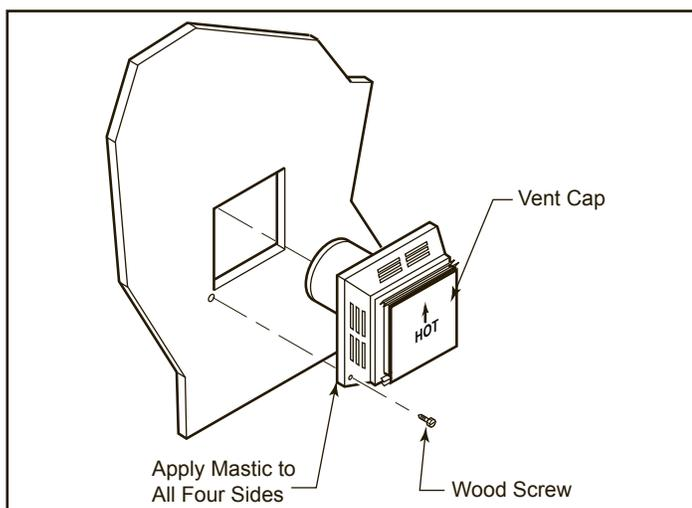

Figure 16 - Install Horizontal Vent Cap
4. Apply a bead of non-hardening mastic around the outside edge of vent cap. Position the vent cap in the center of the $7\frac{1}{2}$ " (190 mm) or $9\frac{1}{2}$ " (241 mm) hole on the exterior wall with the word "UP" on the vent cap facing up. Insure proper clearance of 1" to combustibles is maintained. Attach the vent cap with four wood screws supplied. Figure 16